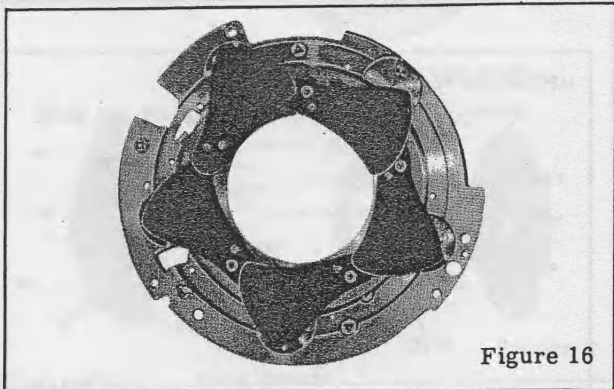

Figure 16
5. BLADE, over the blade with double blade bushing and stud. The back of the mechanism plate should appear as shown in figure 16.